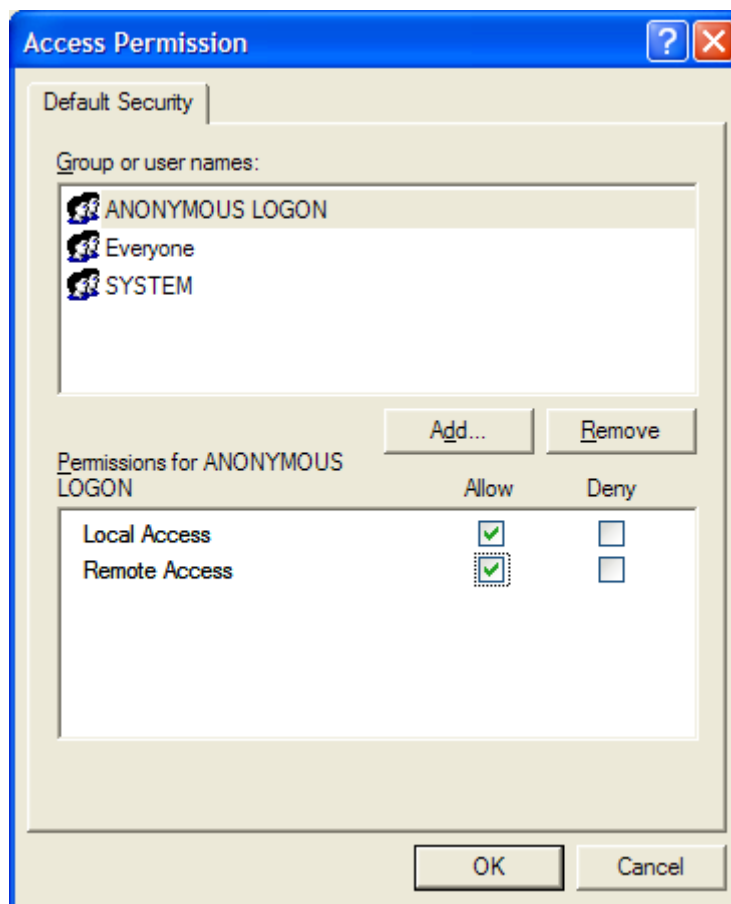

Figure 21 Windows XP Service Pack 2 Default Access Permissions
Press the **Access Permissions - Edit Default** button. The Access Permissions window is displayed (see Figure 21).
- In Windows **XP Service Pack 1**: add the group 'Everyone' with Allow Access Permissions (see Figure 21).